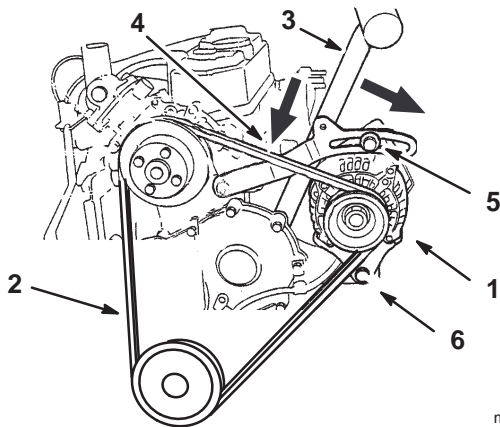

Figure 80
5. Loosen the two bolts holding the alternator (Fig. 80).
6. Remove the belt from the pulleys and alternator (Fig. 80).
7. Install a new belt around the pulleys and the alternator (Fig. 80).
1. Place a handle between the alternator and cylinder block (Fig. 80).
2. Adjust the alternator to the outside until there is 3/8 to 1/2 inch (10 to 13 mm) deflections in the belt between the engine and the alternator (Fig. 80).
5. If the deflection is correct, torque the upper bolt to 170 in-lb (19 N·m) and the bottom bolt to 45 ft-lb (61 N·m) (Fig. 80).